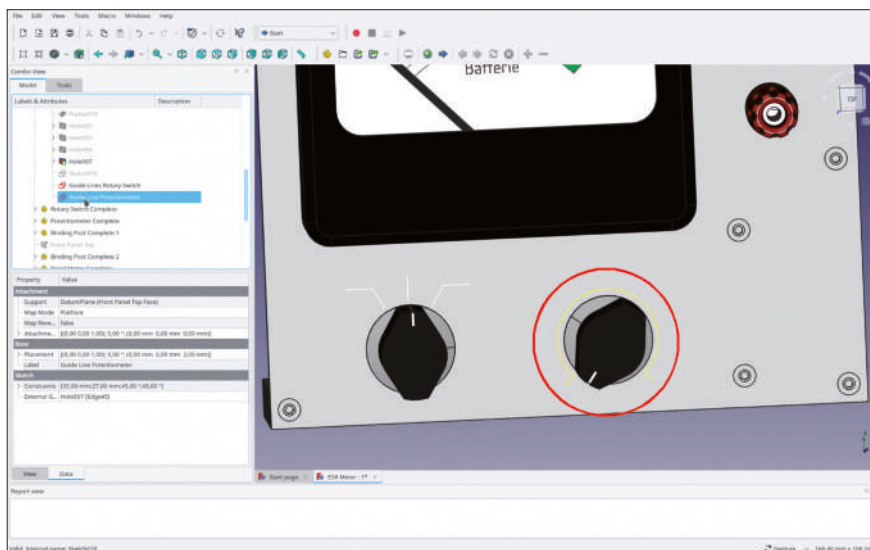

Figure 8-25
11. Close the sketch, and, in the tree view, rename it to 'Guide Line Potentiometer'. Display again the 'Potentiometer Complete' Std-Part-Container with the SPACE key (Figure 8-25).